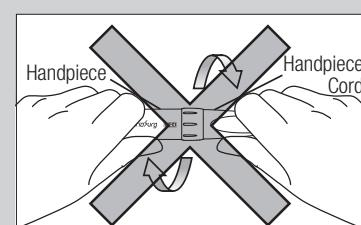

Fig. 23
- The Handpiece can not be removed from the Handpiece Cord. Removing or twisting the Handpiece could cause damage to the internal parts and failure may occur. (Fig. 23)